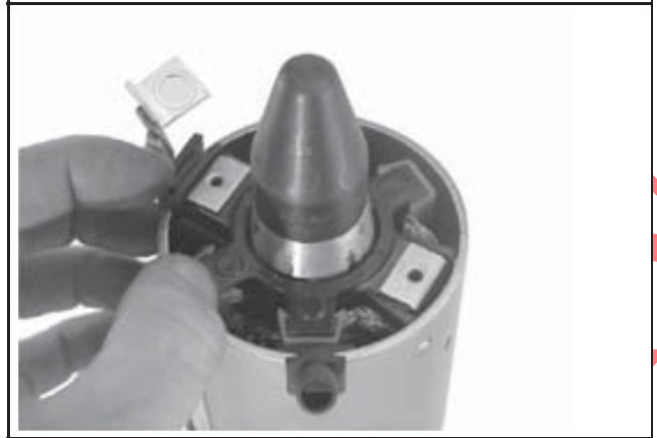

Figure 8-63. Installing Brush Holder Assembly Using Tool with Extension.
- d. Hold the starter assembly vertically on the end housing, and carefully place the tool (w/extension) and assembled original brush holder assembly onto the end of the armature shaft. Slide the brush holder assembly down into place around the commutator, install the positive brush lead grommet in the cutout of the frame. See Figure 8-63.